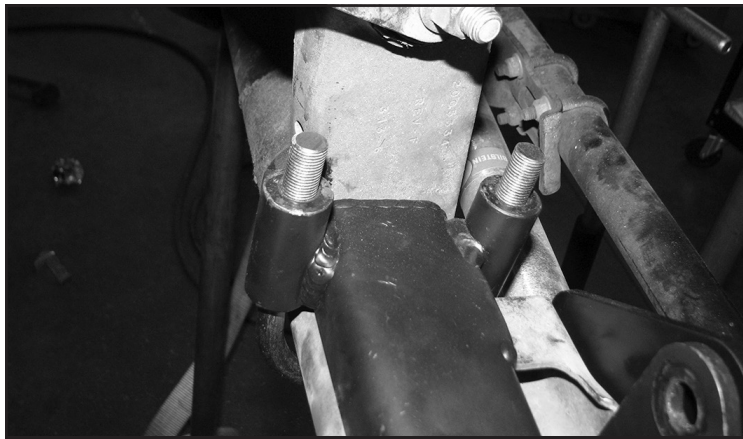

FIGURE 6 - STEP 7
7. Install FT758U (Ubolt) and hardware. Leave loose. **SEE FIGURE 6**